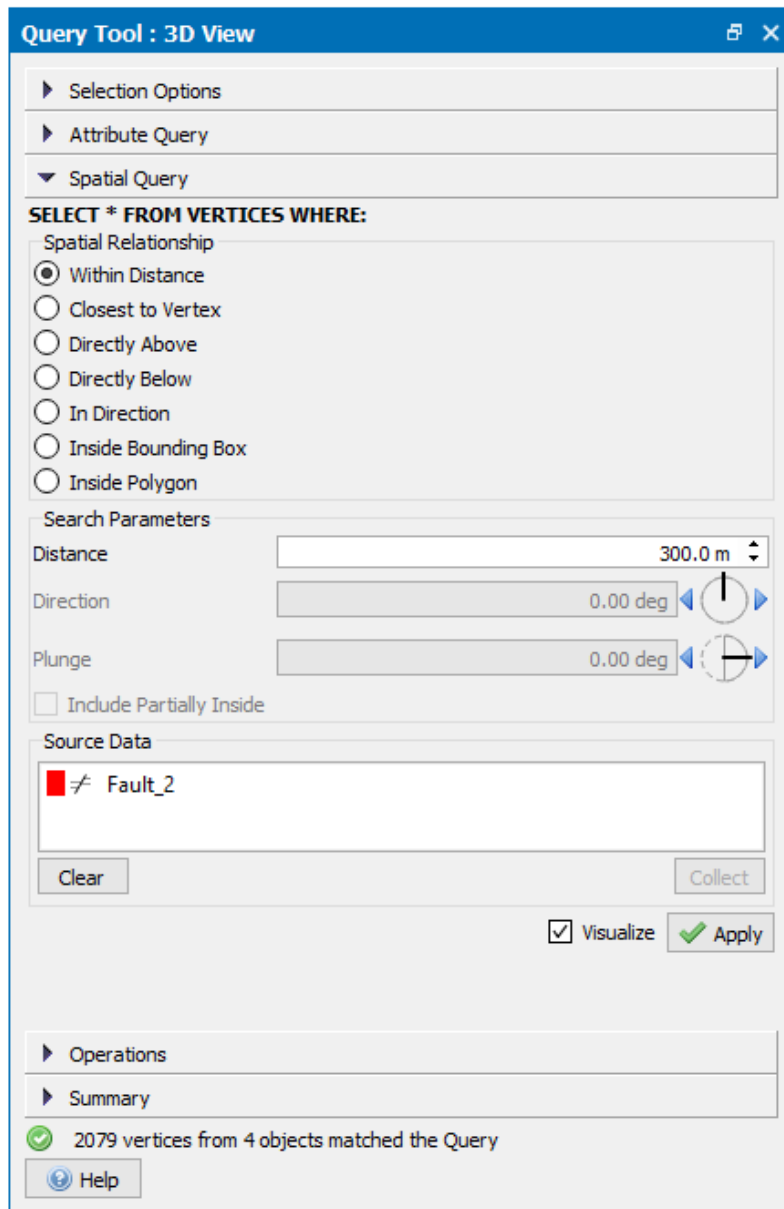

Figure 3. Spatial Query configuration for selecting vertices <300 m away from Fault 2.
To edit the horizons around Fault 2, the surface vertices located <300 m from Fault 2 will be selected using Spatial Query in the Query tool. The filtered vertices will then be deleted, and the hanging wall and footwall surfaces will be snapped to the fault. As displayed in Figure 3, various spatial queries are available in Move, including Within Distance, Closest to Vertex, Directly Above, Directly Below, In Direction, Inside Bounding Box and Inside Polygon. In this case, the most appropriate spatial relationship to use is the Within Distance method.
3. Select **Within Distance** as the **Spatial Relationship**, as shown in Figure 3.